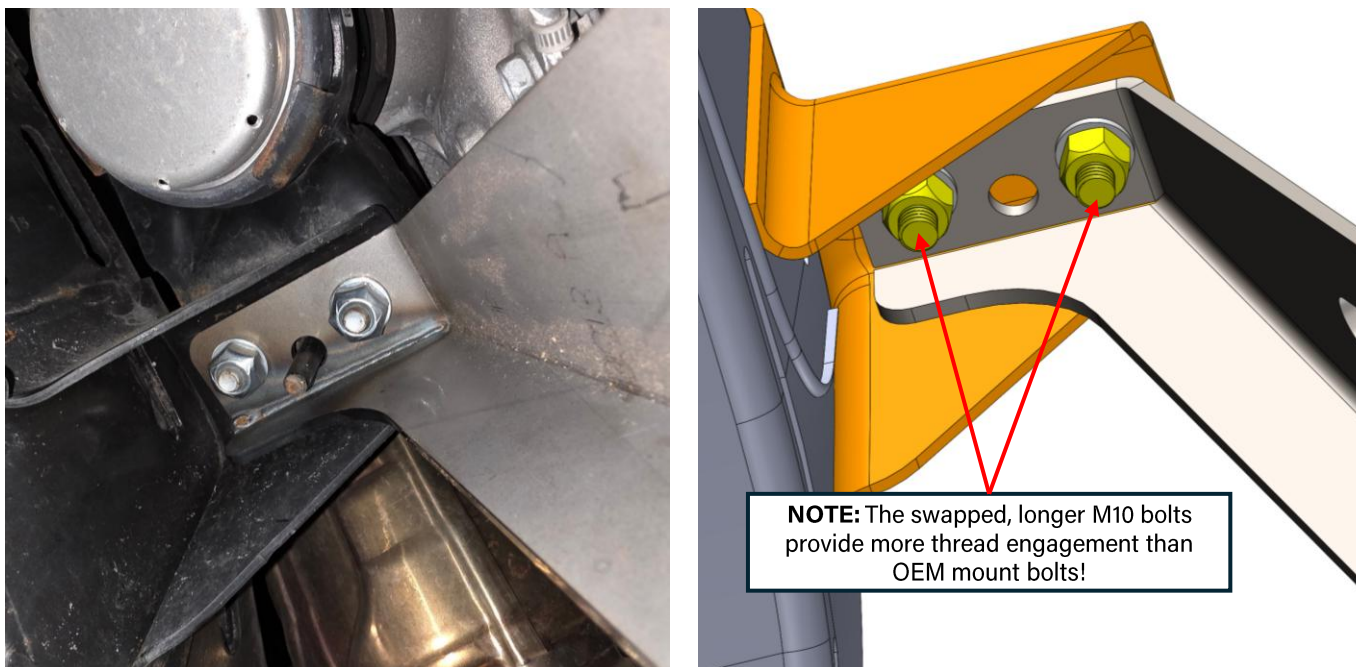

Figure 37: Motor mount bracket loosely installed
30. **Loosely** install the provided passenger-side motor mount bracket using a 17mm socket. See Figure 37 below for clarification. **Install below the motor mount using the x2 provided M10 locknuts and x2 washers. Do not install the skid plate yet!**